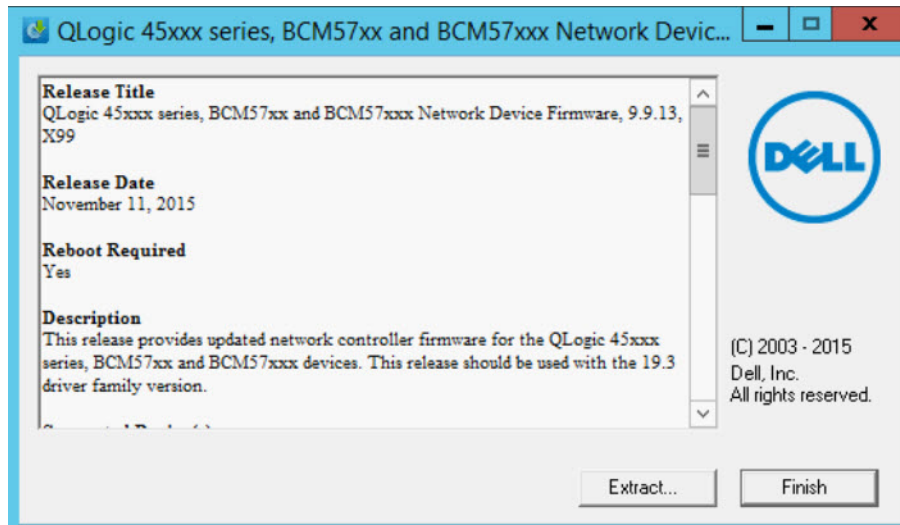

Figure 4-5. Dell Update Package: Finish Installation
5. Click **Finish** to complete the installation, as shown in Figure 4-5.